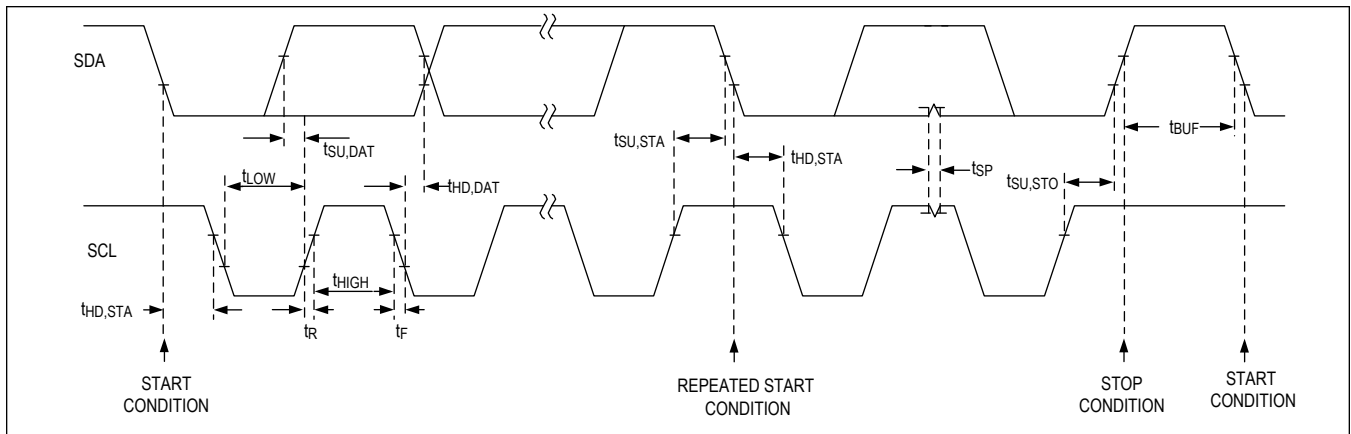

Figure 33. I2C Interface Timing Diagram
The IC features an I2C/SMBus™-compatible, 2-wire serial interface consisting of a serial data line (SDA) and a serial clock line (SCL). SDA and SCL facilitate communication between the IC and the master at clock rates up to 1MHz. Figure 33 shows the 2-wire interface timing diagram. The master generates SCL and initiates data transfer on the bus. The master device writes data to the IC by transmitting the proper slave address followed by two register address bytes (most significant byte first) and then the data word. Each transmit sequence is framed by a START (S) or REPEATED START (Sr) condition and a STOP (P) condition. Each word transmitted to the IC is 8 bits long and is followed by an acknowledge clock pulse. A master reading data from the IC transmits the proper slave address followed by a series of nine SCL pulses. The IC transmits data on SDA in sync with the master-generated SCL pulses. The master acknowledges receipt of each byte of data. Each read sequence is framed by a START (S) or REPEATED START (Sr) condition, a not acknowledge, and a STOP (P) condition. SDA operates as both an input and an open-drain output. A pullup resistor, typically greater than 500Ω, is required on SDA. SCL operates only as an input. A pullup resistor, typically greater than 500Ω, is required on SCL if there are multiple masters on the bus, or if the single master has an open-drain SCL output. Series resistors in line with SDA and SCL are optional. Series resistors protect the digital inputs of the IC from high voltage spikes on the bus lines, and minimize crosstalk and undershoot of the bus signals.